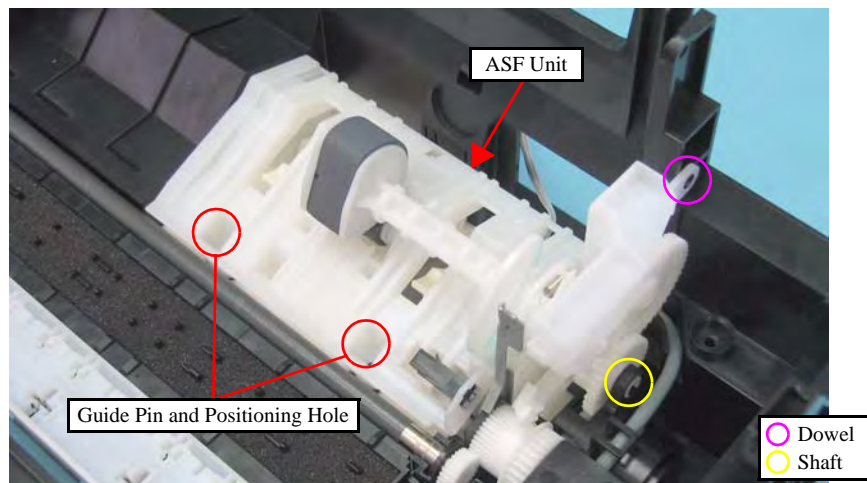

Figure 4-85. Removing the ASF Unit (2)
- When installing the ASF Unit, be sure to align the guide pins (x2) of the Base Frame with the positioning holes (x2) of the ASF Unit as shown in Figure 4-85.